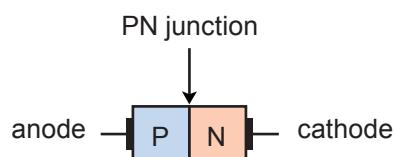

Figure 7.7 Basic structure of a PN junction diode
When an n-type and a p-type semiconductor are joined together, the simplest semiconductor component, the **PN junction diode**, is formed. Figure 7.7 shows the basic structure of a PN junction diode. The end connected to the p-type semiconductor is called the **anode (A)** or positive terminal while the end connected to the n-type semiconductor is called the **cathode (K)** or negative terminal. The junction between the two materials is called the **PN junction**.